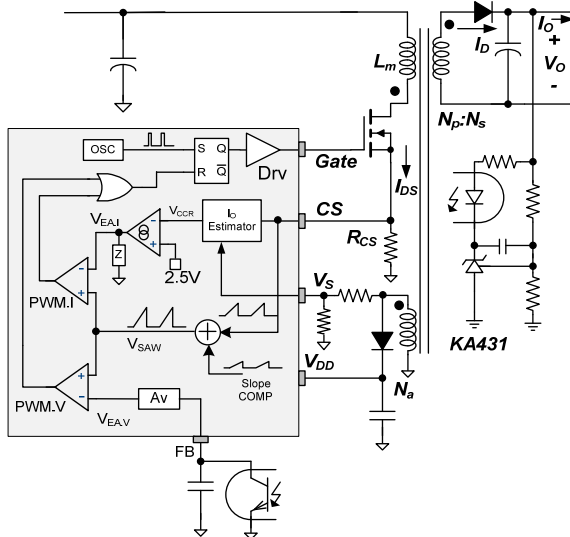

Figure 24. Internal PWM Control Circuit
Figure 24 shows the internal PWM control circuit. The constant voltage (CV) regulation is implemented in the same way as the conventional isolated power supply, where the output voltage is sensed using a voltage divider and compared with the internal 2.5V reference of a shunt regulator (KA431) to generate a compensation signal. The compensation signal is transferred to the primary side using an opto-coupler and scaled down through attenuator A_v , generating the $V_{EA,V}$ signal. Then the error signal $V_{EA,V}$ is applied to the PWM comparator (PWM.V) to determine the duty cycle.